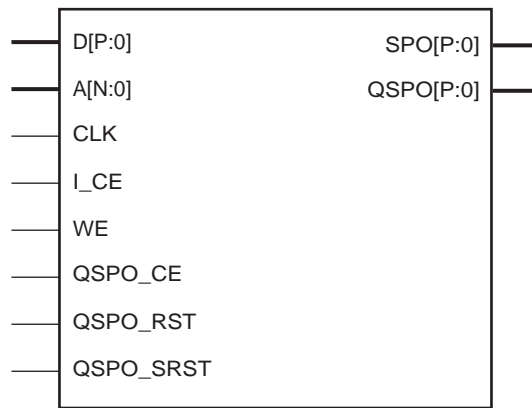
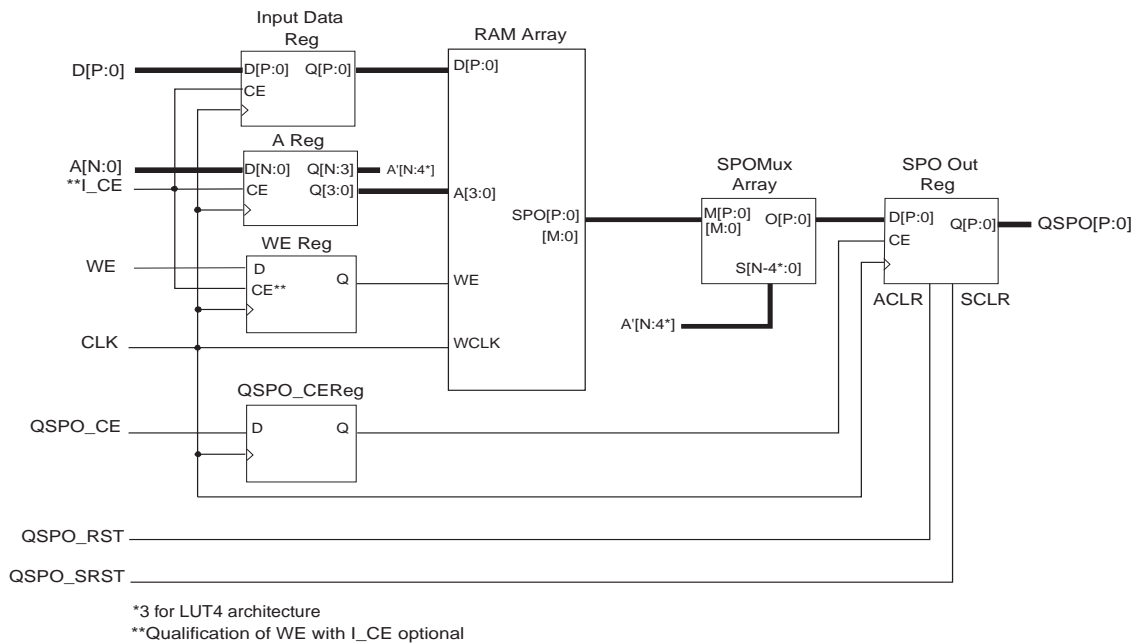

Figure 3-3: Distributed Single-Port RAM Schematic Symbol
Figure 3-4: Distributed Single-Port RAM Module Schematic
The distributed single-port RAM uses the single-port distributed RAM resource of the LUT. Writes to the Single-Port RAM are synchronous to the clock (CLK). However, read operations can be asynchronous (SPO) or synchronous to the clock (QSPO). Figure 3-3 illustrates the distributed single-port RAM schematic symbol, and Figure 3-4 illustrates its internal implementation. If a pipeline register is added to a registered core (not illustrated), the additional register is re-timed into the SPO MUX array. For timing information about the distributed single-port RAM, see the appropriate user guide for the target FPGA architecture.
- **Single-Port RAM.** Figure 3-4 is a schematic of the structure of the single-port RAM modules. The address and data registers are optional (controlled by the setting of the Input Options parameter). Output registering is also optional (controlled by the setting of the Output Options parameter). The resets and clock enables are optional. The clock CLK is always required because writes to the single-port RAM are synchronous to that clock.